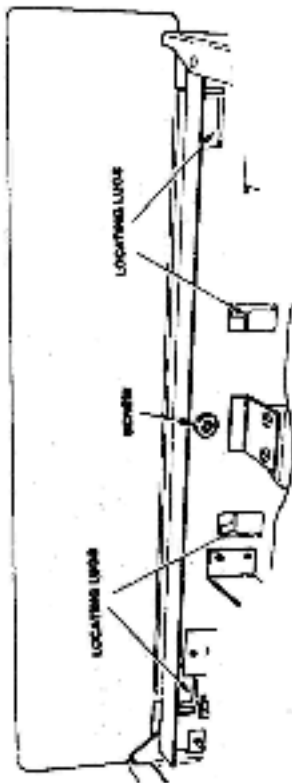

Fig. 3 Fitting the splashback
3. Fit the splashback as shown in Fig. 3. Slide the splashback down into the locating lugs, insert the fixing screw, and tighten.